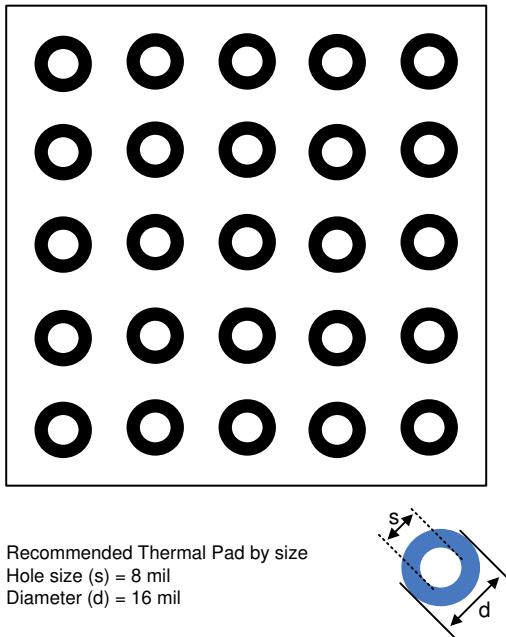

图 10-2. PowerPAD™ Layout Recommendation
- The thermal pad should be tied to the PCB ground plane with a minimum of 25 vias. See 图 10-2 for an example.